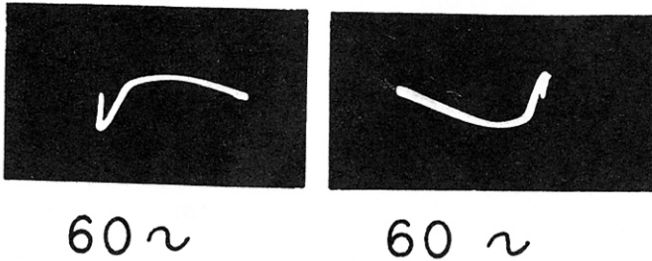

Fig. 22
Step 8. Rotate the calibrate switch clockwise to the 60 cycle position. This is as far as the switch will rotate. Adjust 60 cycle control so that the pattern appears stationary on the CRT. Depending upon the phase in which the system locks in, the 60 cycle pattern may appear normal or may be shifted to the left or right. This is shown in Fig. 22, where several possible combinations are shown. Set the control to the center of the range over which the pattern is in sync.